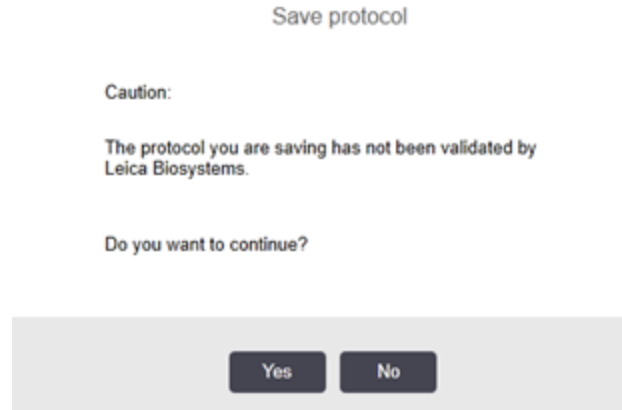

Figure 56: Save protocol notification
5. Read the notification and click **Yes** (see Figure 56).